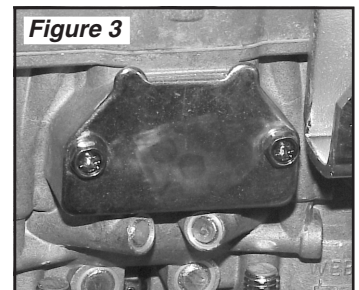

Figure 3
2. Replace fuel enrichment lever assembly from right carburetor with block off plate in kit. Use short screws & washers in kit (See Figure 3).